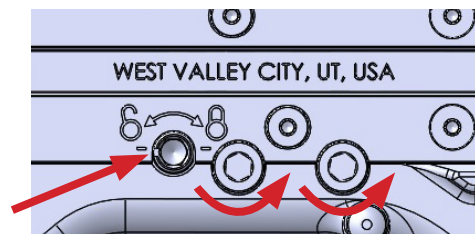

Fig. a-4
5. Ensure the barrel lock screw is in the "Unlocked" position, and the two barrel retention screws are loose. (Fig. a-4)